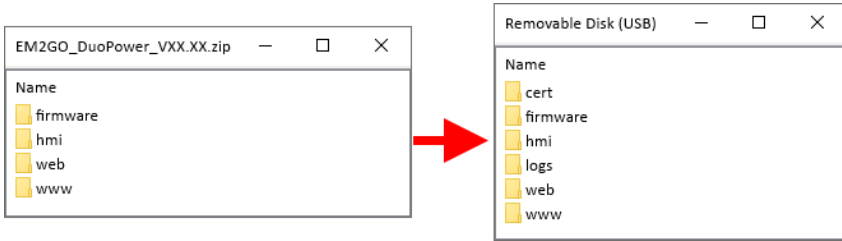

Fig. 6-16 Copying folders from the ZIP file to the removable disk of the EV charger
8. Extract all files and folders from the downloaded ZIP file to the EV charger's removable disk using the original file and folder names (see Fig. 6-16).